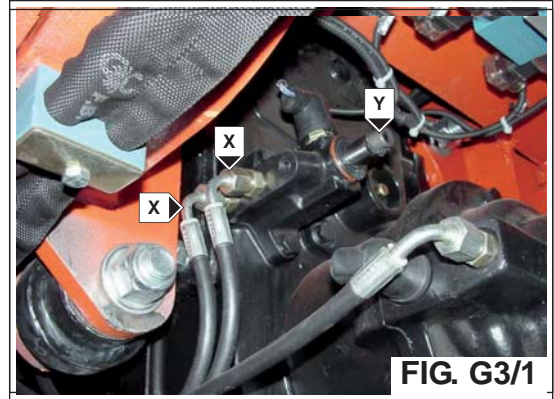

FIG. G3/1
- a) Disconnect and close the hydraulic "X" (Fig.G3/1) of the cylinder of the gear selector.
- b) Put the rod "Y" (Fig.G3/1) in neutral position (this is on half stroke between two "détente")
- c) Deactivate the negative brake (fig.G3/2):